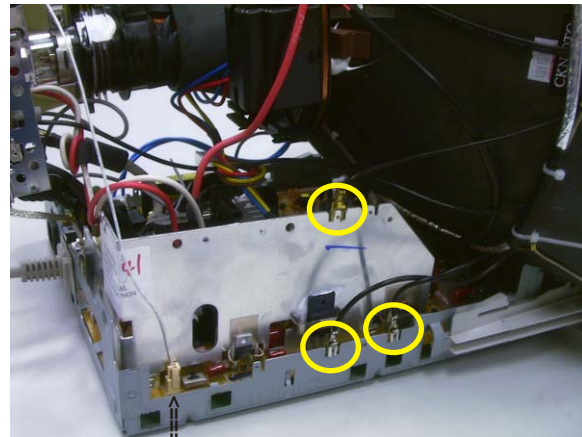

Fig. 9
- Disconnect connector "1604" and all the wires as shown in Fig. 9.